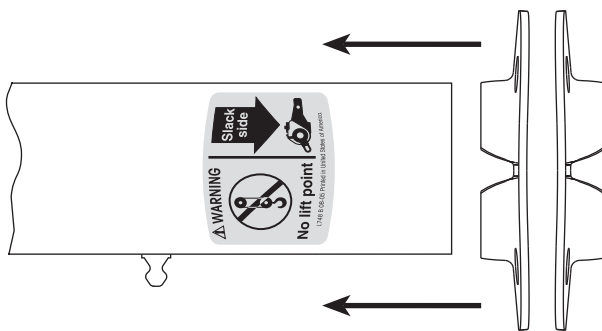

Figure 2: Install brackets back to back on cam tube
6. Arrange the two Cam tube support brackets (item 4) back-to-back and slide them onto the end of the cam tube assembly (Figure 2). Slide the brackets onto the cam tube until they contact the suspension beam.